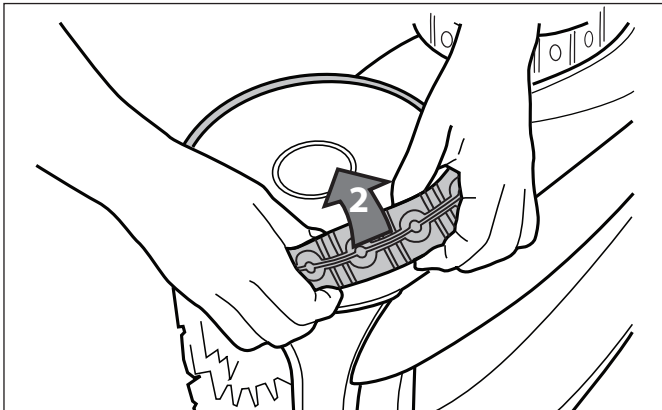

Figure 34. Remove the Old Tyre
2. Remove the old tyre (Figure 34).